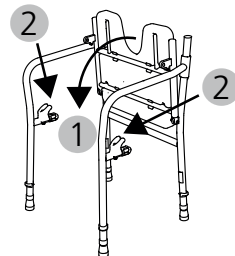

Abb. 4
3. Now align the side elements parallel to each other. You can now slowly fold the seat down (Fig. 4, 1) and place the seat tubes on the locking receptacle. Check that both sides fit together. Only then press the seat surface down until you hear it click into place.